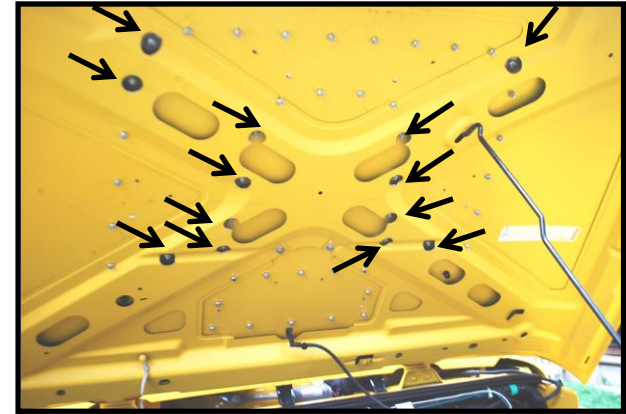

Figure 3
****NOTE**** You will need to use the 1” hole saw to expand some holes drilled in the hood support frame from underneath the hood, 13 times. See (Figure 3)